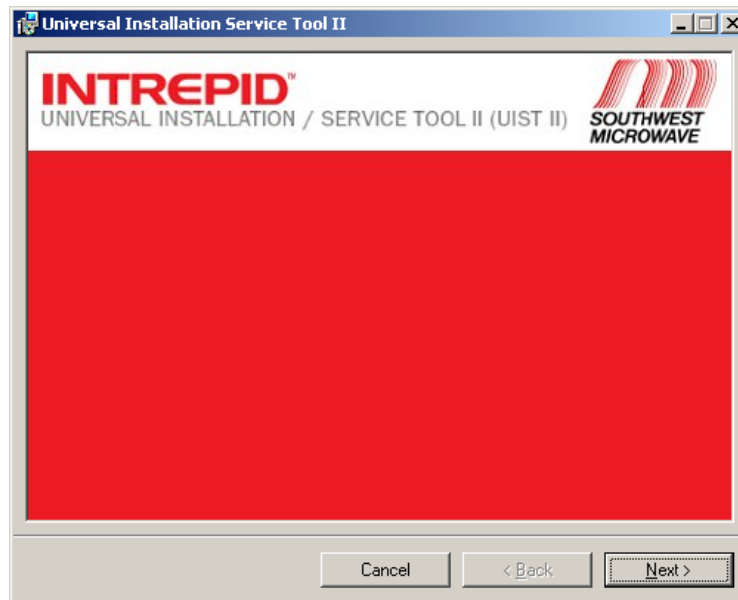

Figure 2.3 – Splash Screen
- 2.5 After all components have been configured the UIST II splash screen as shown in Figure 2.3 will open. Select “Next” to continue the installation process or select “Cancel” to end the installation.